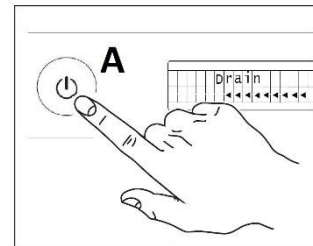

Fig.22
- 2- Turn OFF the machine by pressing button "A" On/Off. (Fig.22)